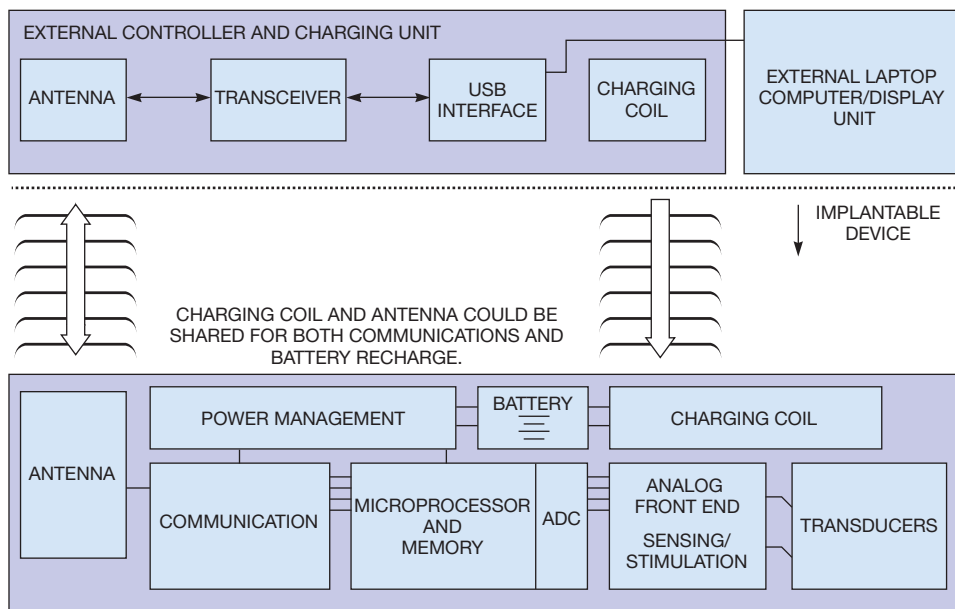

Figure 3 Cactus Semiconductor's high-integration, mixed-signal ICs brings new ideas to a circuit designer's bag of tricks.
**Figure 3** EN specifications govern the maximum noise levels a charger should emit at any frequency. EN 62684-2010 and EN 301489-34v1.1.1 govern these noise levels.
Companies including Cactus Semiconductor have expertise in power-management and analog circuits that find value in products for the medical and portable-system market. An analog-circuit designer's dream come true is the level of integration that such innovators make possible (Figure 3).